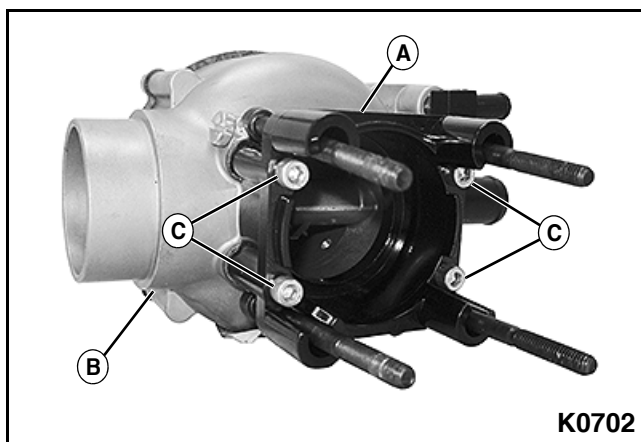

Figure 3-40
2. Install the air-fuel mixer and throttle body adapter (A) to the air-fuel mixer valve (B). Secure with four socket head cap screws (C). **See Figure 3-40.**